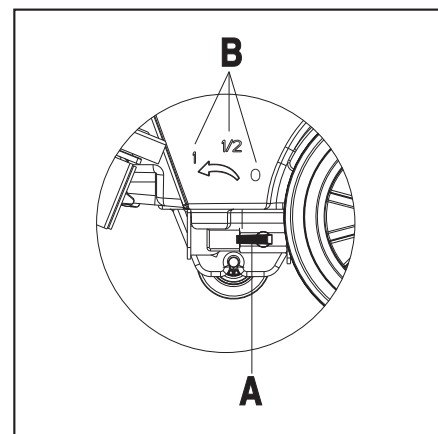

FIGURE 10
Regulating the ball valve handle (A, Figure 10) must be done under the condition when the power switch (41) is in the "Off" position.
10. The volume of the water flow may be adjusted through the ball valve handle (A, Figure 10) according to the amount of water required for your scrubbing application.